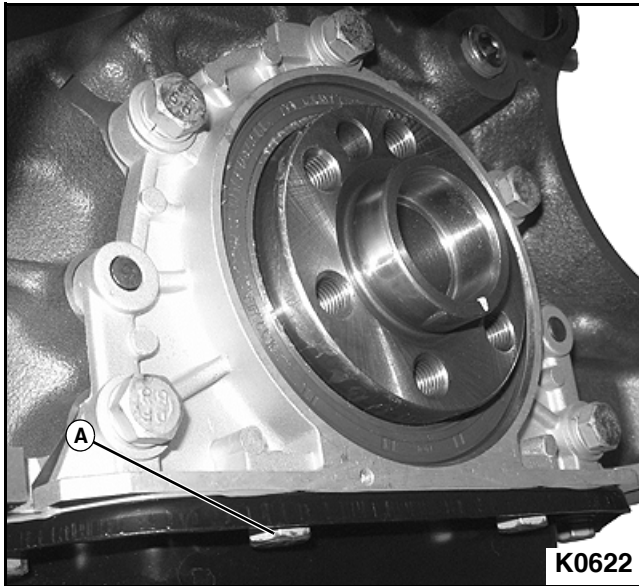

Figure 3-94
7. Install two rear engine oil pan-to-rear crankshaft seal retainer mounting bolts (A). **See Figure 3-94.**